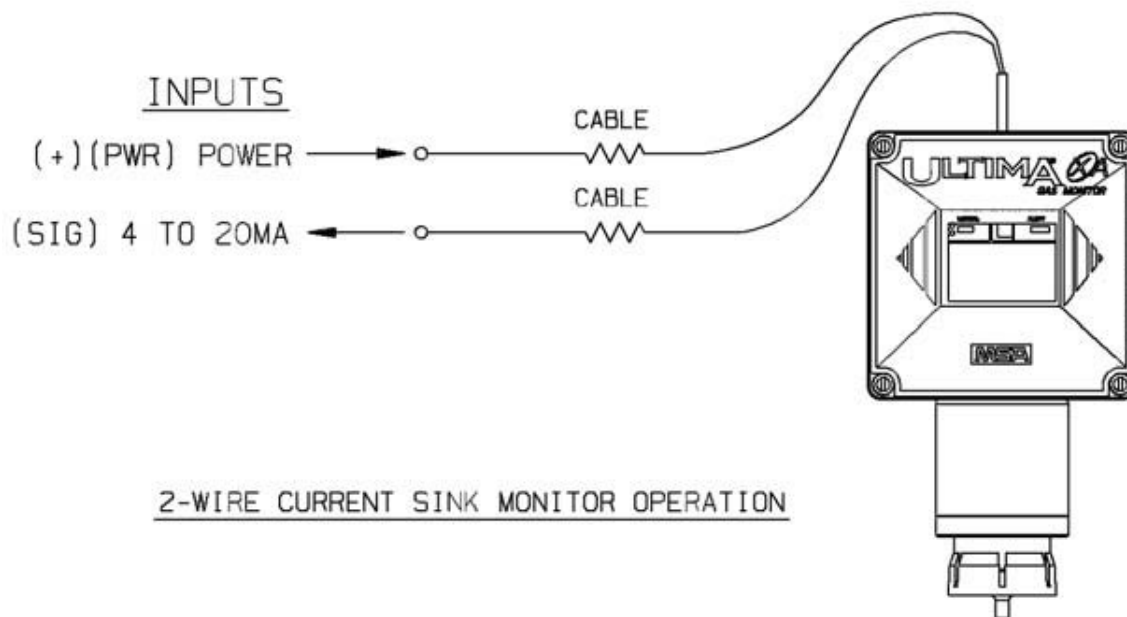
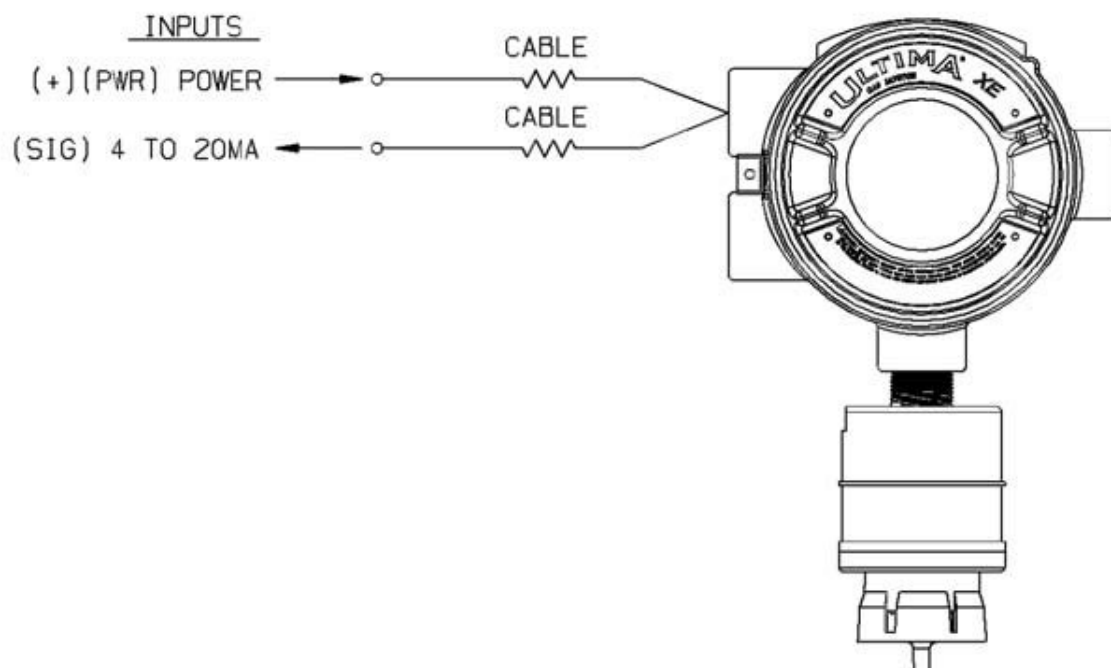

Fig. 12 General-Purpose Two-Wire Operation
Fig. 13 Explosion-Proof Two-Wire Operation
- Two-wire 4 to 20 mA Ultima X Series Monitors operate in the current loop mode (Fig. 12 for general-purpose) (Fig. 13 for explosion-proof).